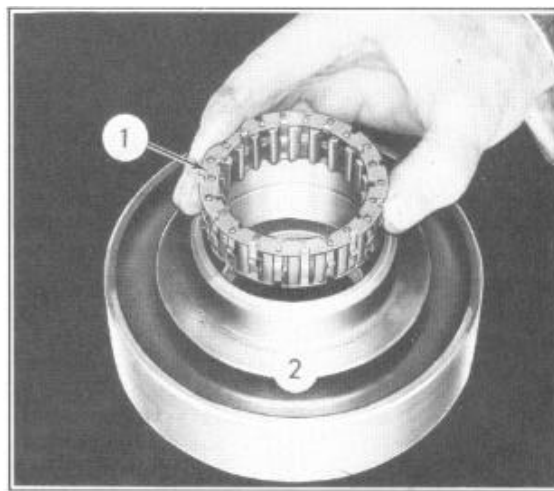

FIGURE 127
28. Install the forward free wheel unit (1) in the forward brake drum (2), Figure 127. (Shouldered flange of free wheel unit facing towards assembler.)